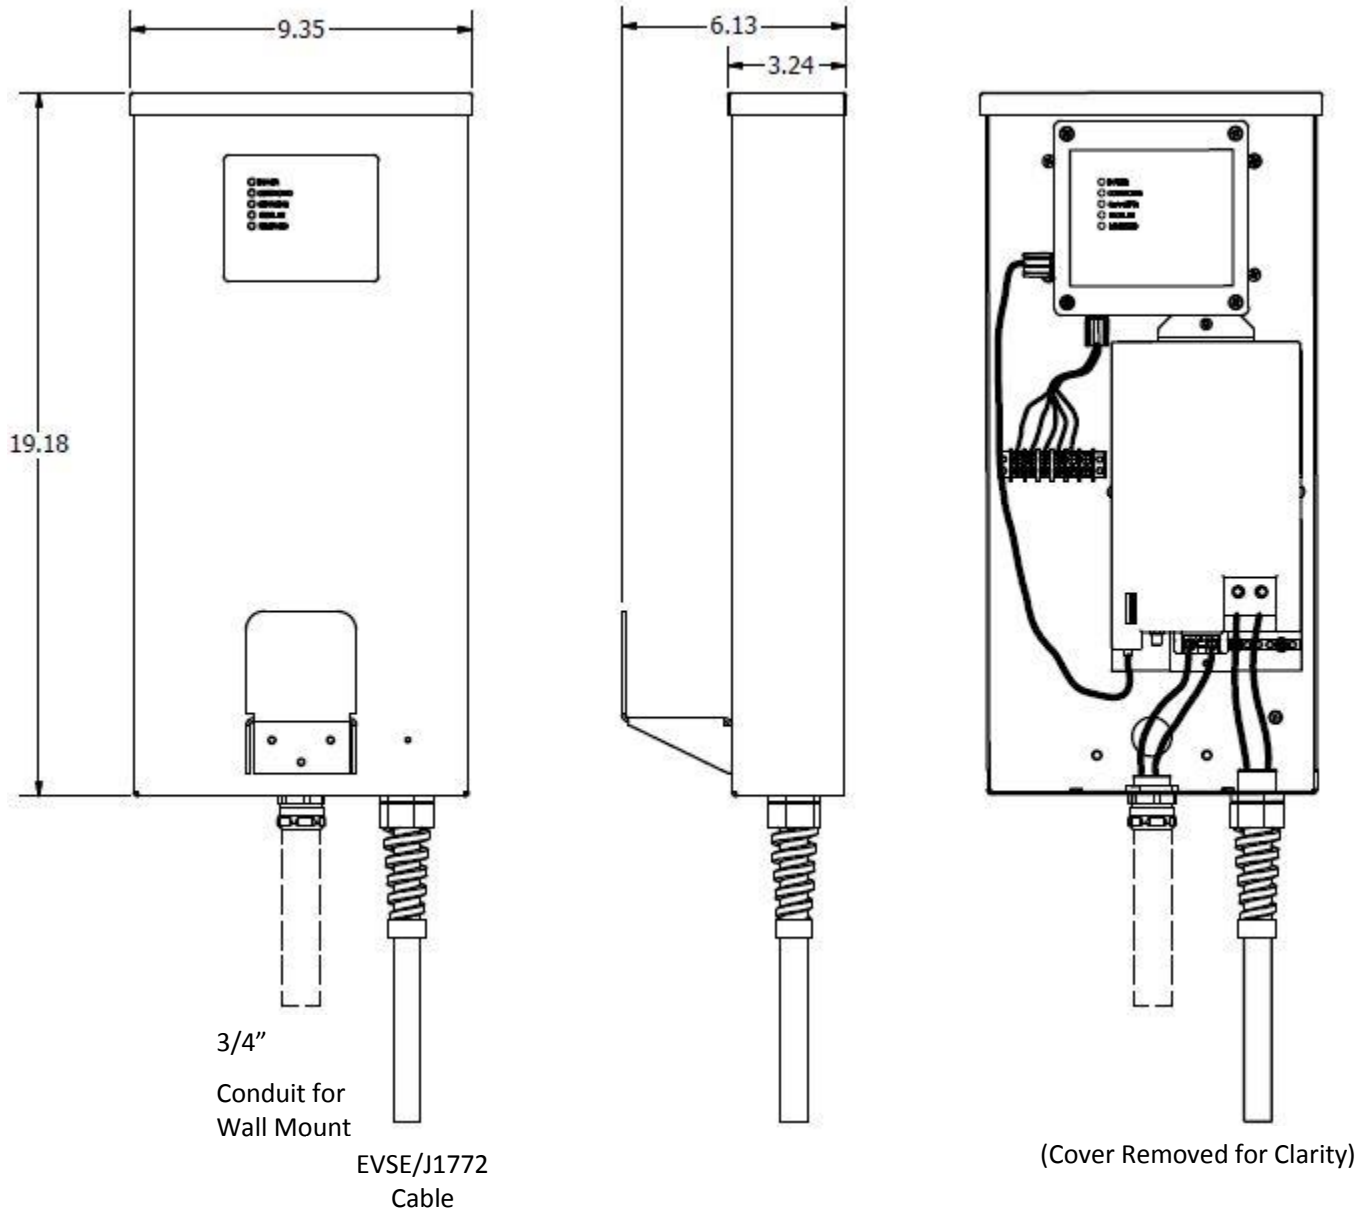

Figure1
1. Position the 3703 so that the center of its window is 48 inches from the ground (**Figure 1**).